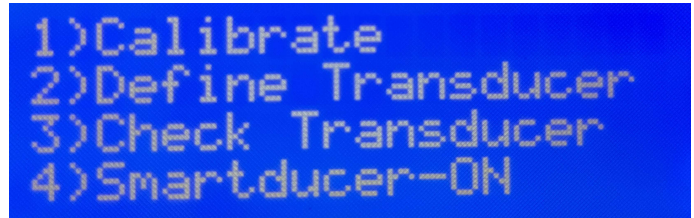

Figure 4 Cal Menu
1. To enable or disable the Auto-ID feature, from the Main Screen, press the CAL key to display the Cal Menu. See Figure 4 below.